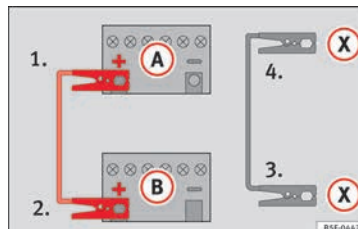

Fig. 79 Diagram of connections for vehicles with Start Stop system
- *For vehicles with Start-Stop system:* connect one end of the **black** jump lead (X) to a suitable ground terminal, to a solid piece of metal in the engine block, or to the engine block itself » » **Fig. 79**.
5. Connect the other end of the **black** jump lead (X) to a solid metal component bolted to the engine block or to the engine block itself of the vehicle with the flat battery. Do not connect it to a point near the battery (A).